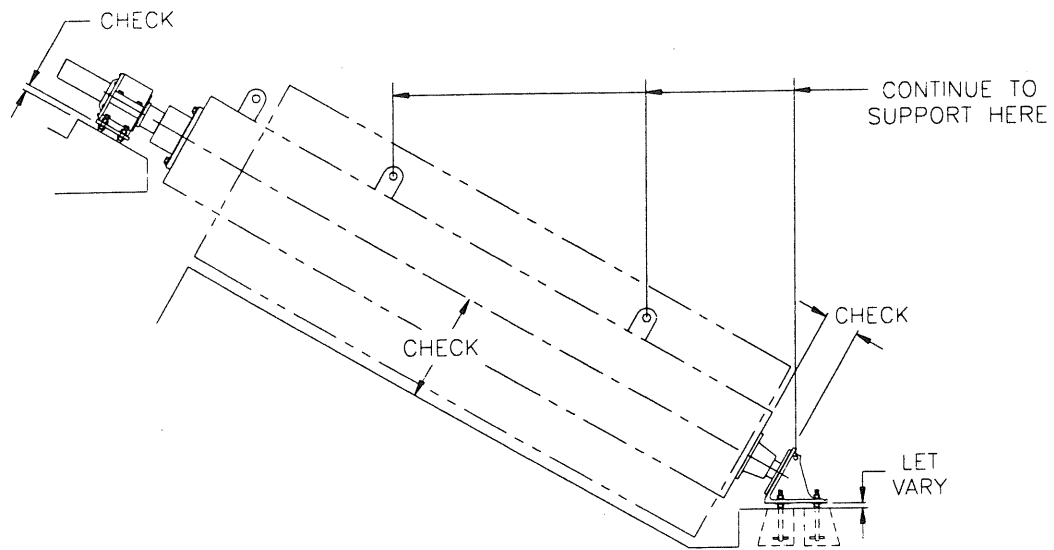

Figure D5
- b. Locate a man in the lower and upper bearing areas. Place the upper bearing soleplate over the anchor bolts. Guide the lower bearing journal into the bronze bushing in the lower bearing housing bolted to the screw. Move the screw and lower bearing stand to dimensions on the "07" drawing, Figure D5.